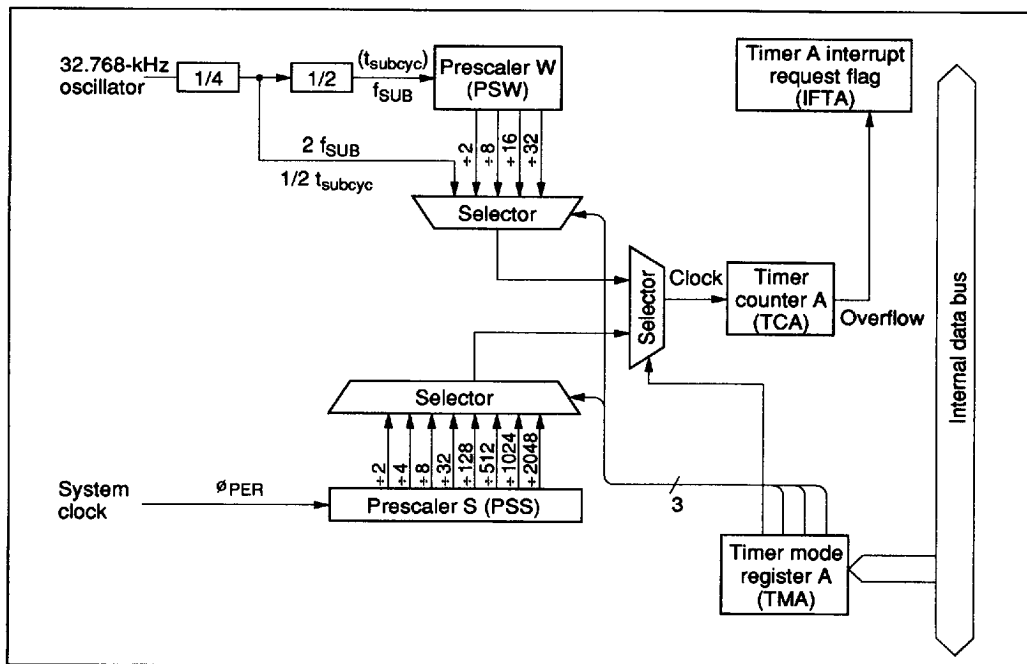

Figure 25 Timer A Block Diagram
The MCU provides prescalers S and W (each with a different input clock source), and three timer/counters (timers A, B, and C). Figures 25, 26 and 27 show their diagrams.
**Timer A Operation:** After timer A is initialized to \$00 by MCU reset, it counts up at every clock input signal. When the next clock signal is applied after timer A has counted up to \$FF, timer A is set to \$00 again, and an overflow output is generated. This sets the timer A interrupt request flag (IFTA: \$001, bit 2) to 1. Therefore, timer A can function as an interval timer periodically generating overflow output at every 256th clock signal input (figure 25).